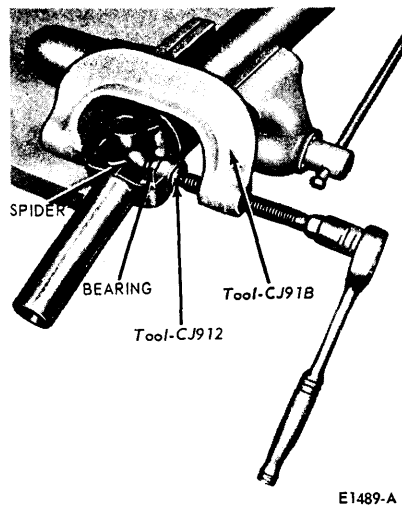

FIG. 2—Removing U-Joint
5. Position the tool shown in Fig. 2 on the shaft and press the bearing out of the yoke. If the bearing cannot be pressed all the way out of the yoke, remove it with vise grip or channel lock pliers.